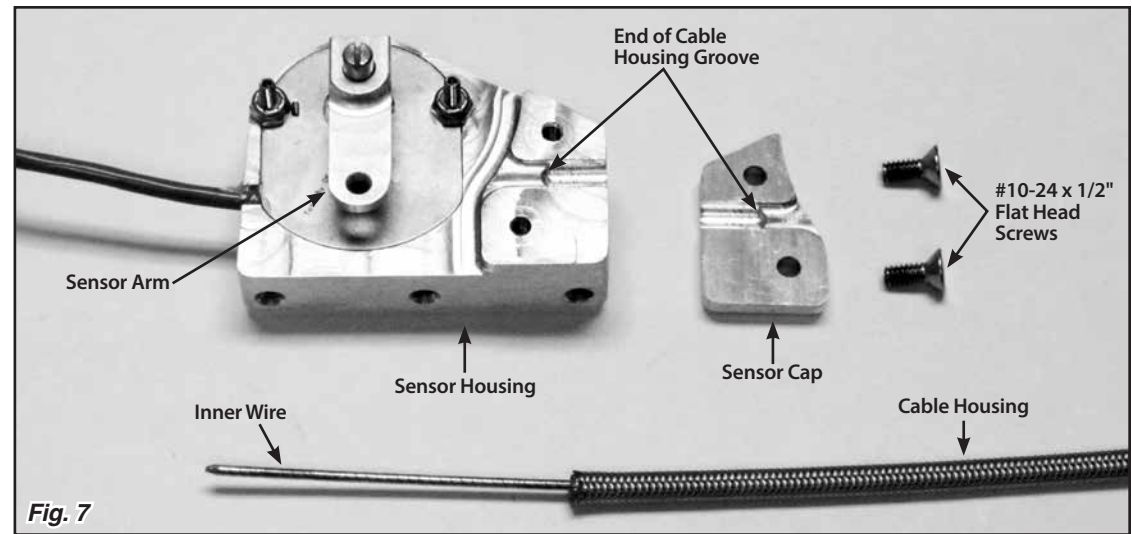
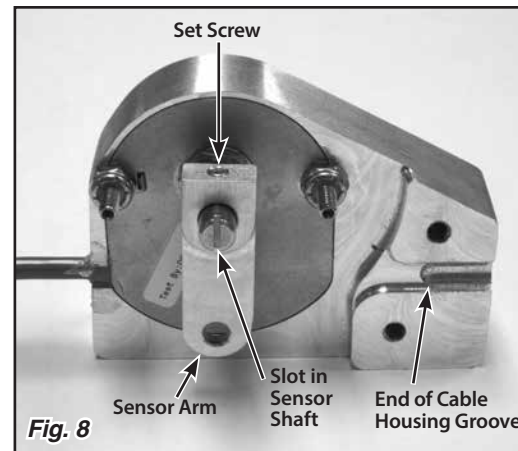

Fig. 7
Fig. 8
Step 3: Remove the sensor cap by removing the two #10-24 x 1/2" flat head screws using a 1/8" Allen wrench, and separate the cable housing from the sensor. **Fig. 7**
Step 4: Make sure the sensor arm is parallel to the slot in the sensor shaft, with the set screw in the top of the sensor arm aligned with the slot. If not, loosen the set screw in the top of the sensor arm using a 1/16" Allen wrench, and adjust the position of the sensor arm on the shaft. **Fig. 8**
There is a groove in the sensor housing that the end of the cable housing fits in to. Mark the cable housing at the end of the cable housing groove. Remove the cable housing from the adjustable cable mounting bracket. **Fig. 7 and Fig. 8**